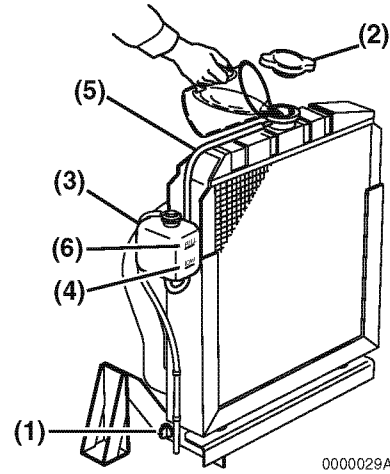
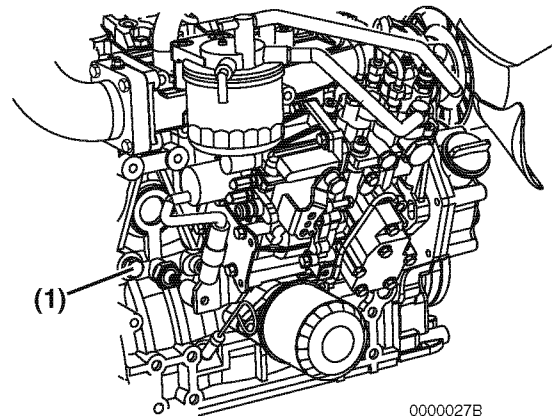

Figure 4-7
Figure 4-8
Fill the radiator and reserve tank as follows. This procedure is for filling the radiator for the first time or refilling it after it is flushed. Note that a typical radiator is illustrated (**Figure 4-7**).
1. Check to be sure the radiator drain plug is installed and tightened or the drain cock (**Figure 4-7, (1)**) is closed. Also make sure the coolant drain plug (**Figure 4-8, (1)**) in the cylinder block is closed or the oil coolant hoses (**Figure 4-9, (1)**) are installed at the oil cooler.